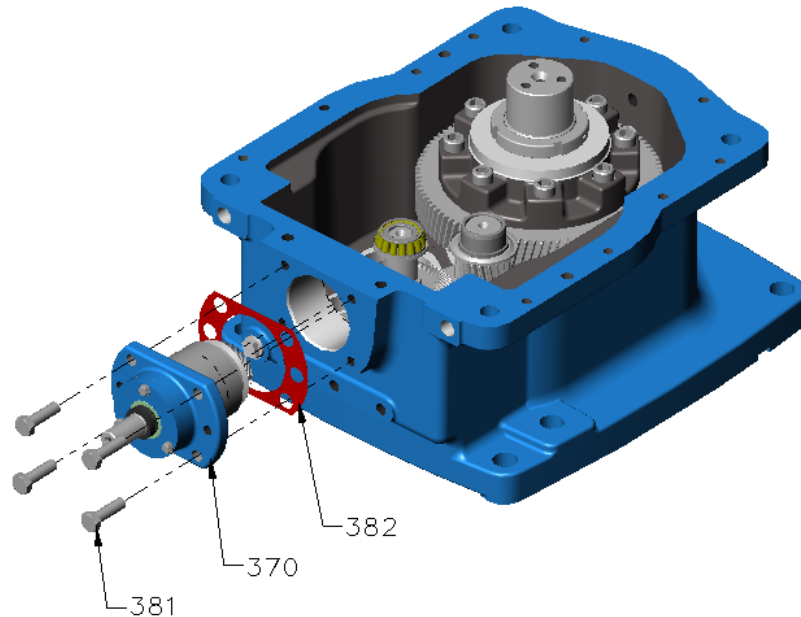

Figure 22 – Spiral bevel cartridge
- S. Install bolts [381]. Torque-tighten bolts [381] to value given in Table 1 (refer Figure 22).